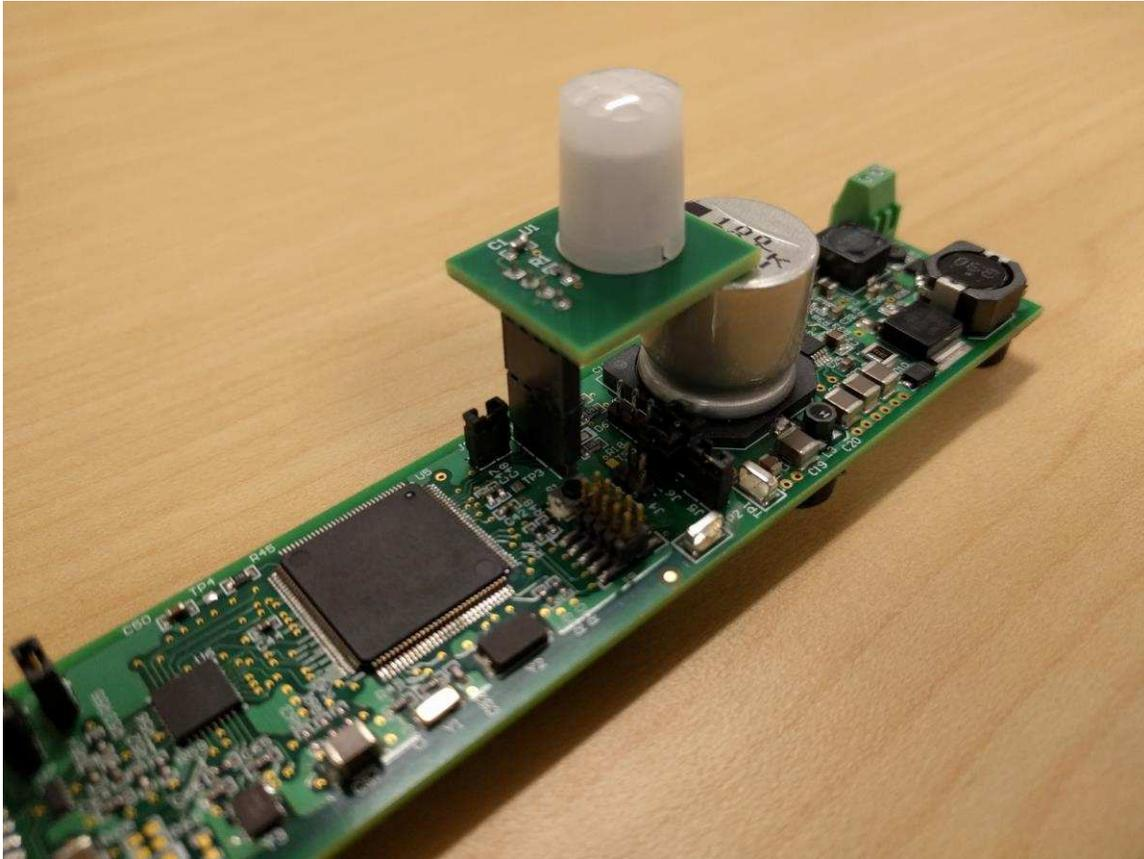

Figure 20. TIDA-01463 PCB With IR Sensor Attached
1. First, connect the IR sensor board to header J10 on the TIDA-01463 PCB. The board will function without the sensor. For the correct connection, the board must hang over the large capacitor, so an additional 4-pin header is included to ensure height clearance. Figure 20 shows the orientation of the IR sensor board..